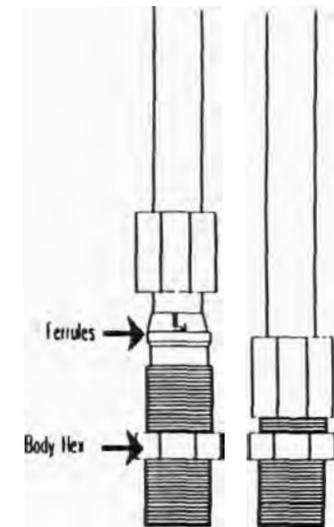

Figure 6-8: Polypropylene Connector
3. Push the tubing into the completely assembled connector until it contacts the shoulder inside the fitting (see the illustration on the left in Figure 6-8).
4. Tighten the nut with a wrench, but be careful not to over tighten it; the nut should not come in contact with the shoulder of the body (see the illustration on the right in Figure 6-8).